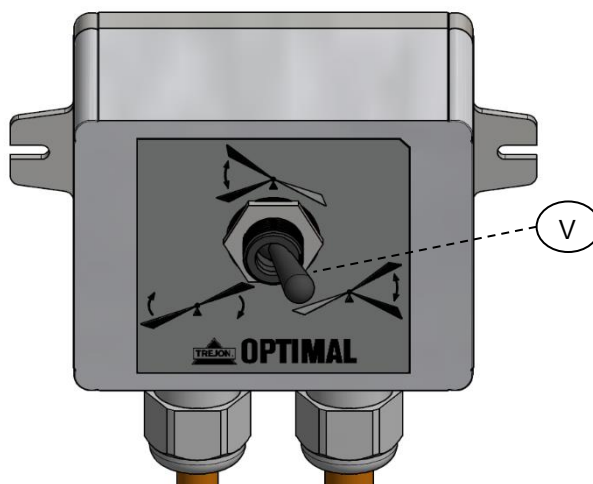

Figure 30
The VPX plough is supplied with a control box (**art. no. 330008**). The control box's toggle switch (V) – see Figure 30 – can be set in three different positions: right, left or centre.